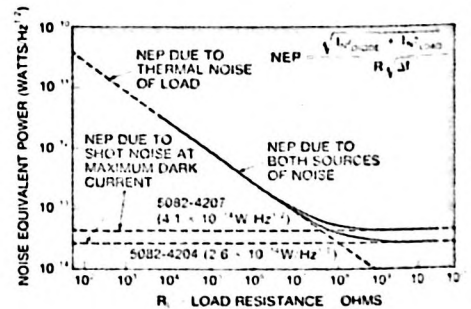

Figure 8. Noise Equivalent Power vs. Load Resistance.
2. Exceeding the Steady Reverse Voltage may impair the low-noise properties of the photodiodes, an effect which is noticeable only if operation is diode-noise limited (see Figure 8).